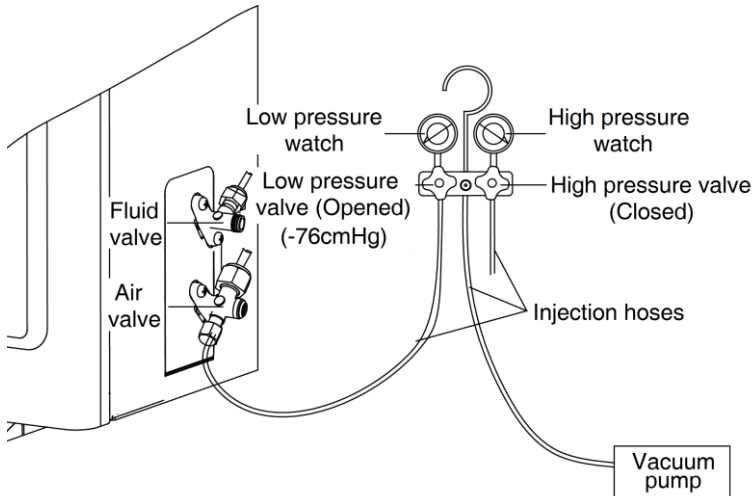

Figure 7-4 Vacuum pump connection diagram
- 2) Connect the joint of the filling hose to the vacuum pump, as shown in Figure 7-4.